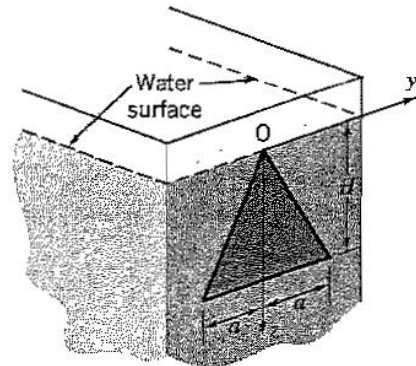

Figure P2.96
2.96 A tank of water of density ρ has a symmetric triangular gate of height H and maximum width $2a$, as shown in Figure P2.96. Calculate the force F exerted by the water on the gate, and where it acts, in terms of ρ , g , h , H and a . The air pressure outside the tank is uniform everywhere.